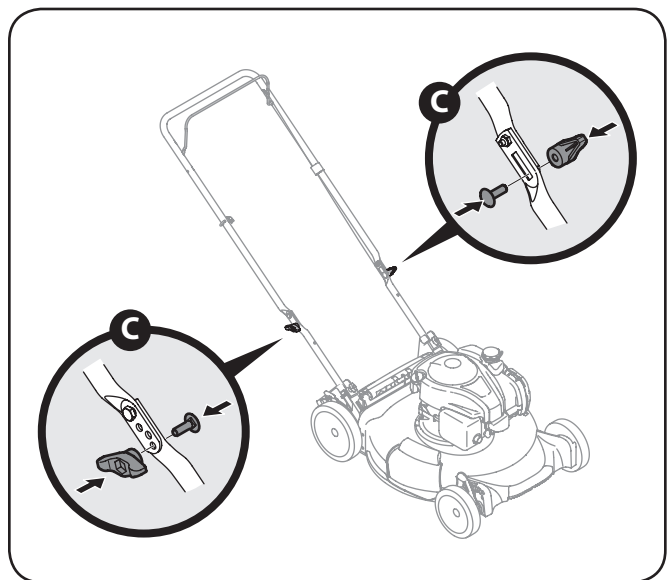

Figure 3-5
- Reattach wing nuts and carriage bolts removed earlier into lower holes of handle as shown in Figure 3-5.